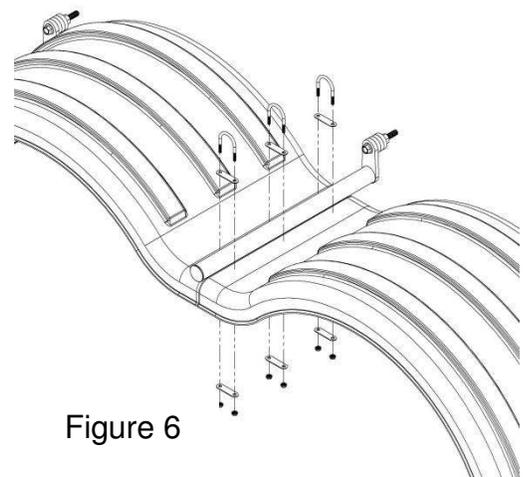

Figure 6
- E. Mount the center bracket so that it is directly over the seam where the fenders join together (Figure 6).